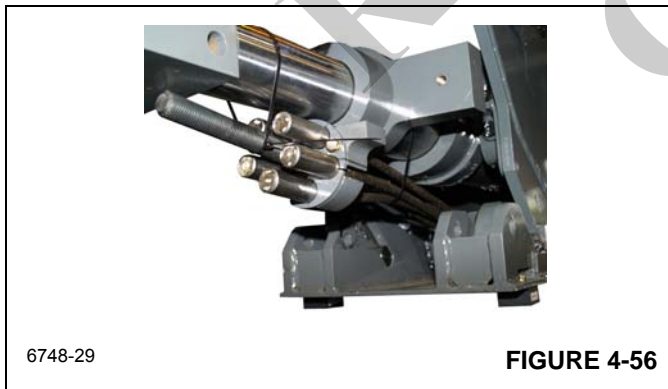
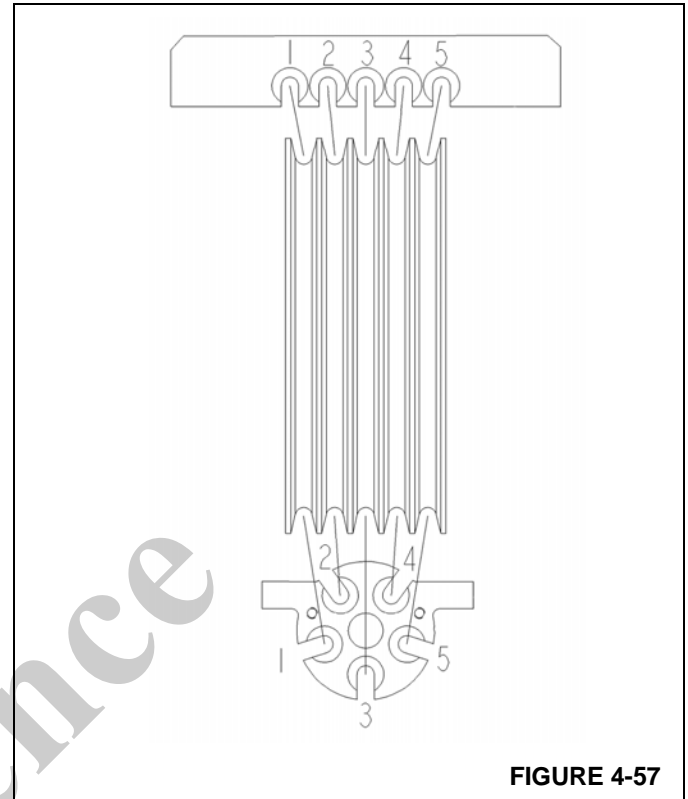

FIGURE 4-56
FIGURE 4-57
20. Install Extend Cables in to the round keeper plate (Figure 4-56 and Figure 4-57).